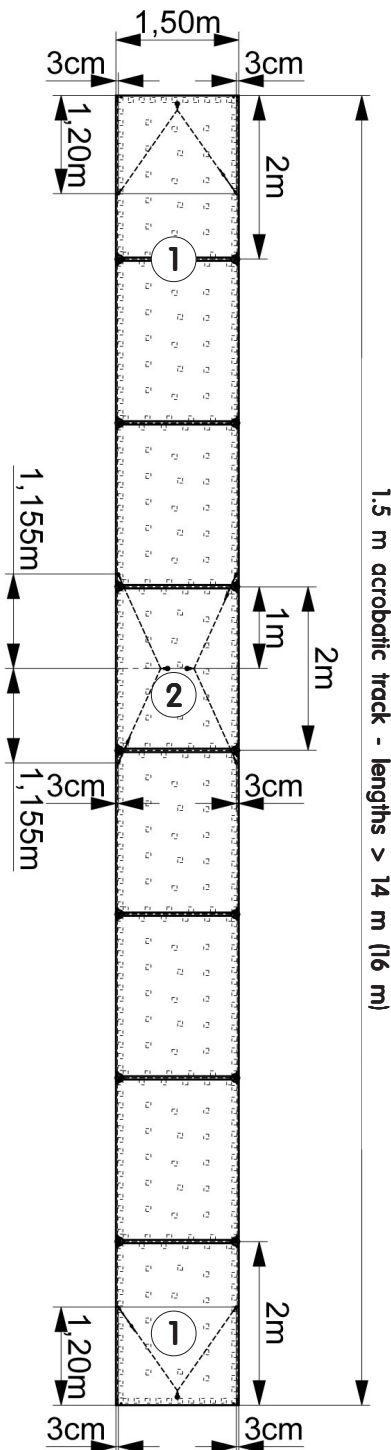

Figure 13
- Once the floor is positioned (depending on the desired and/or existing configuration of the gymnasium), detach the end panels (1), and a center panel (2) of the track.
- Refer to the steps described in «§ I. 1» for the end panels (1).
- Then, repeat the steps in the center of the track center panel (2) (see Fig. 13 and 13a or Fig. 14 and 14a).